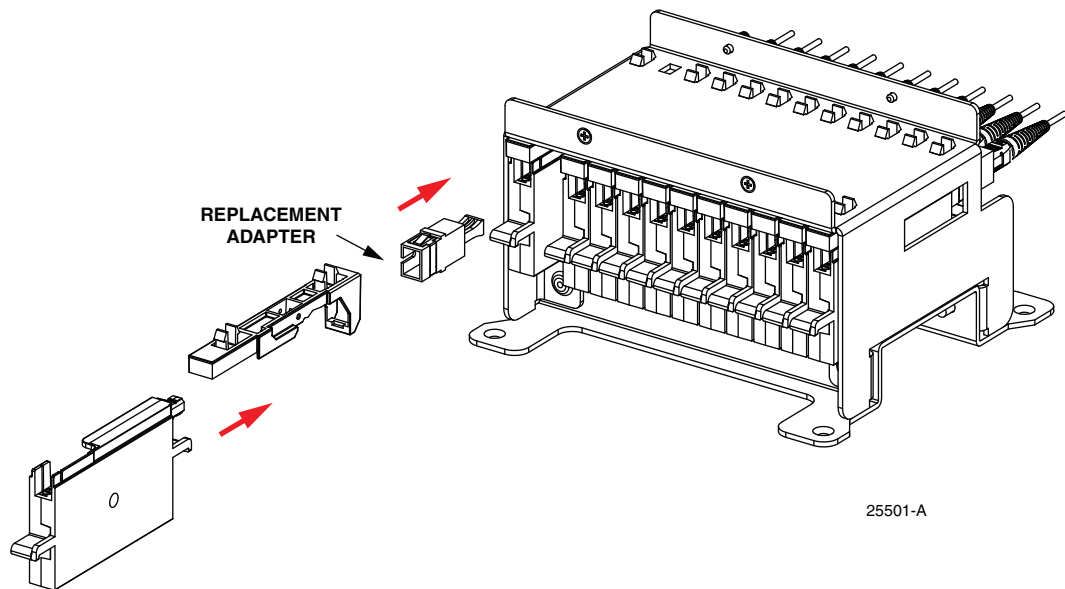

Figure 25. Installing Replacement Adapter
6. Install the replacement top side assembly in the splitter compartment. Remove the dust cap from the replacement adapter and install. Note key orientation (Figure 25).